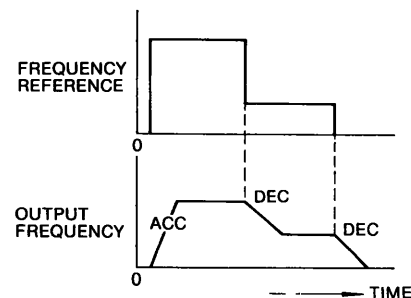

Fig. 4 Accel/Decel Time Setting
- (4) Acceleration and deceleration time setting circuit: Smoothly changes the output frequency upon a rapid change of the frequency reference signal. Acceleration and deceleration times can be independently set by the acceleration (ACC) and deceleration (DEC) time setting potentiometers (Fig. 4).
- (5) Stall prevention circuit
- (6) Operation mode selector circuit: Selects one of eight operation modes individually to tailor the inverter to a specific application.
- (7) Sequence mode selector circuit: Selects the optimum function according to the application from ten modes.